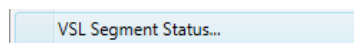

Figure 3-29 – VSL Menu
- **VSL Segment Status** (see Figure 3-29): This option allows the operator to control the VSL subsystem; the software is described in detail in Section 3.3.8.